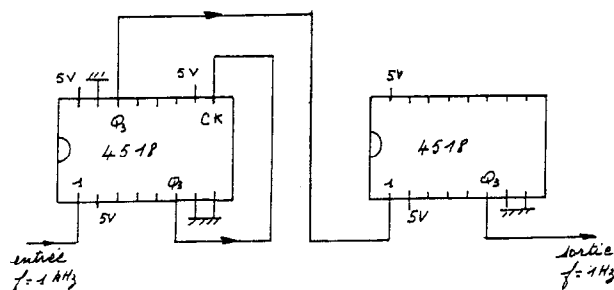

Figure 3
b) **Horloge 2**  $f = 1 \text{ Hz}$  (figure 3)